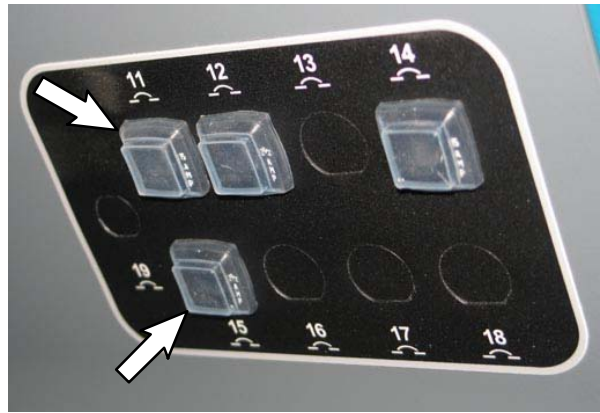
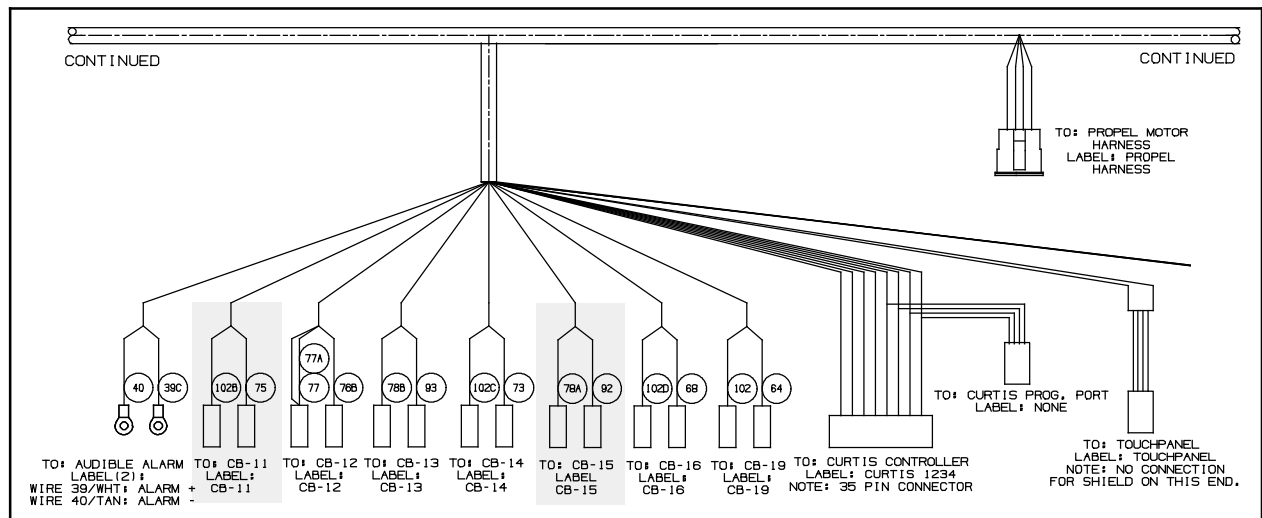

FIG. 15
FIG. 16
27. Install a 2.5-Amp circuit breaker (8) and circuit breaker boot (22) into electrical panel CB15 location. (Fig. 15)
29. Connect the main wire harness to the 2.5 Amp circuit breaker (8) and 15-Amp circuit breaker (25) installed in the previous steps. (Fig. 15 / Fig. 16)